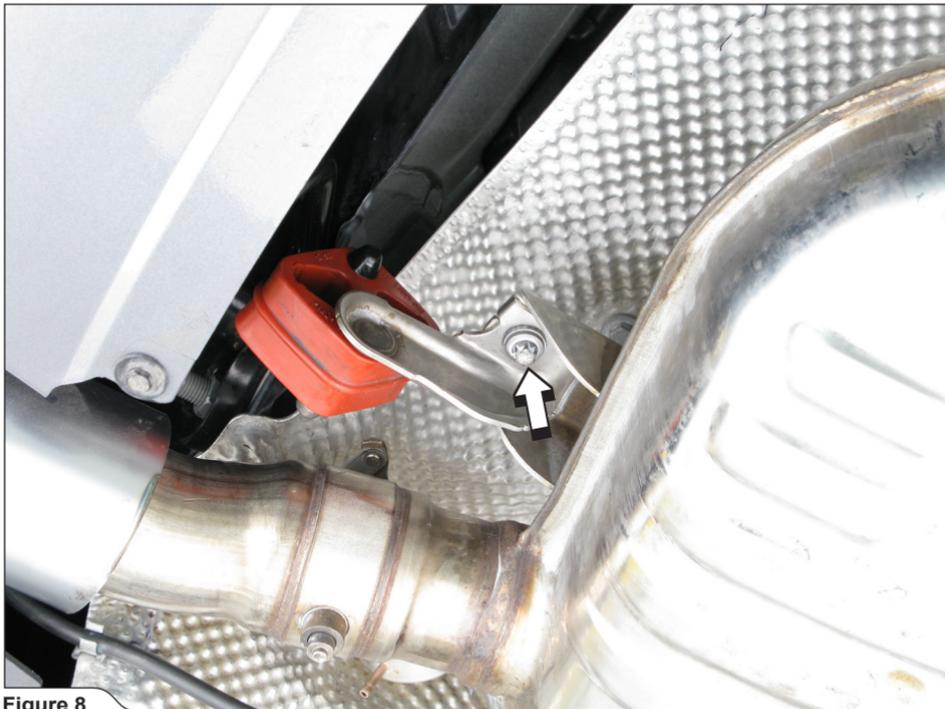

Figure 8
6. **For Slip-On:** unscrew the marked bolts and nuts on both sides of the vehicle. Remove the rubber brackets and the muffler from the vehicle (**Figure 8, 9**).
7. **For Evolution:** unscrew the marked bolts and nuts on both sides of the vehicle. Remove the rubber brackets and the muffler with tubes from the vehicle (Figure 8, 9, 10).